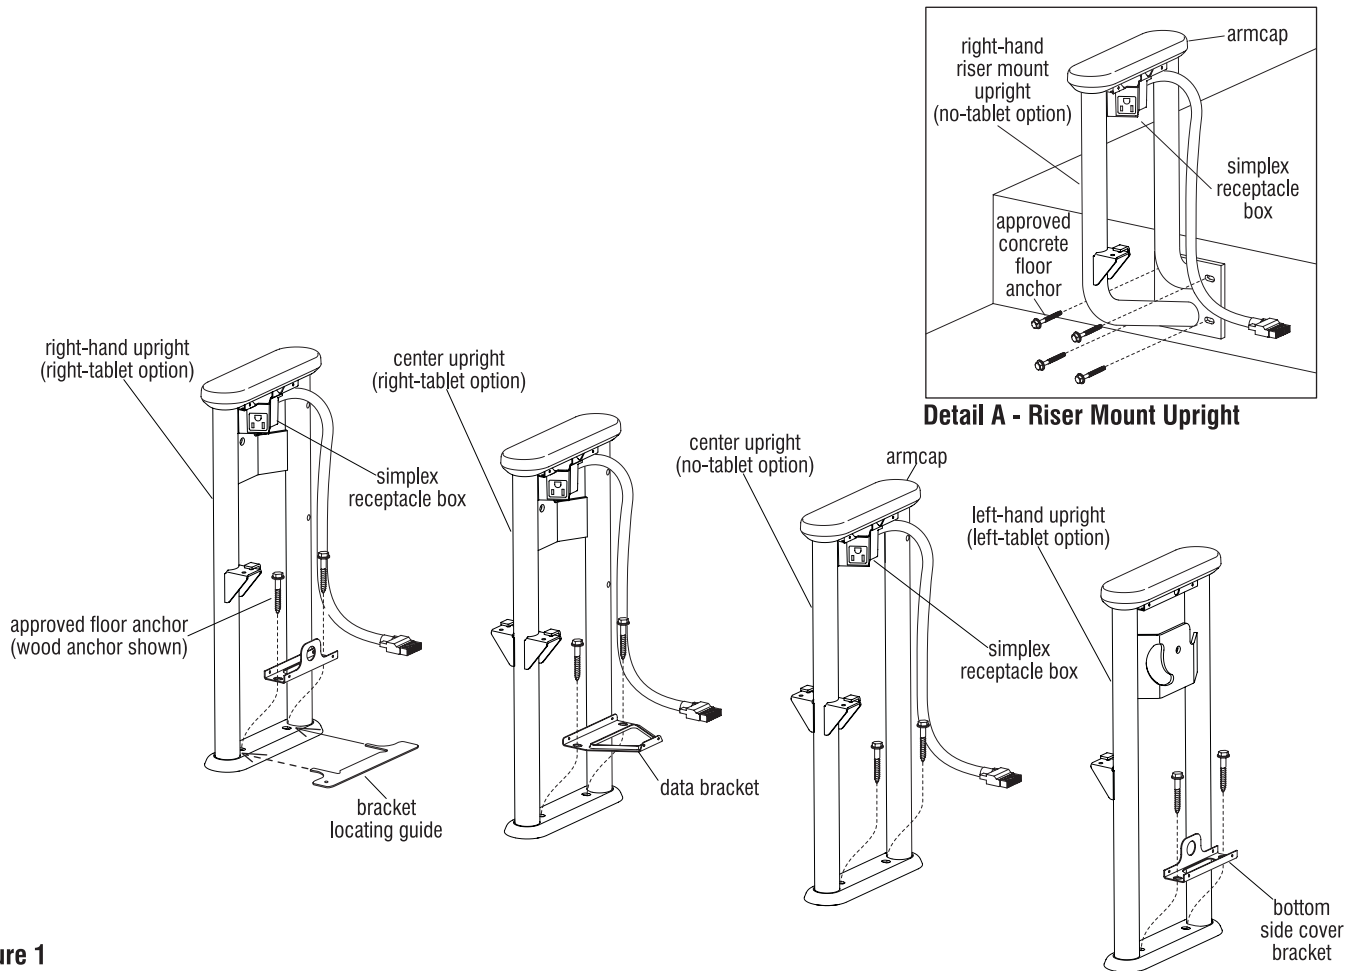

Figure 1
- Follow the space-planning layout provided and stage the uprights in position with the specified right, left or no-tablet option (Figure 1), as well as by indicated electrical circuit number and/or aisle light option. Each right-hand powered upright comes with a simplex receptacle box labeled "1", "2", or "3" (Figure 1). All upright locations designated "FL" (full-length side-cover upright) will require a
bottom side cover bracket (Figure 1). A side cover bracket is also required at power infeed locations "P" (Figure 1). A data bracket is required at data infeed locations "D" (Figure 1). The data infeed side cover is full length with a protrusion at the bottom where the data wires enter the cover (Figure 6). Half-height side covers may be used on uprights where no power or data is run up from the floor (Figure 6). Half-height side cover locations require no
1. For floor mounted uprights, bore anchor holes to required hole depth for floor-type specific floor anchors. See pages 2 through 5 for anchor information. Locate upright foot over pre-drilled holes and drive in (do not tighten) mounting anchors. **Do not tighten any uprights down at this time.** Leave fastener loose with head approximately  $\frac{1}{16}$ " from contacting the foot of the upright (Figure 1).
1. Begin installing uprights to the floor by placing the appropriate bottom side cover bracket over the mounting holes in the upright foot. Orient bottom side cover bracket so wire routing hole is facing in toward the seat on end-of-run uprights. Align the holes in the upright foot (and bracket if applicable) with the floor-type specific floor anchors. Insert fasteners through to the floor. **Do not tighten any uprights down at this time.** Leave fastener head loose with approximately  $\frac{1}{16}$ " from contacting the foot of the upright (Figure 1).